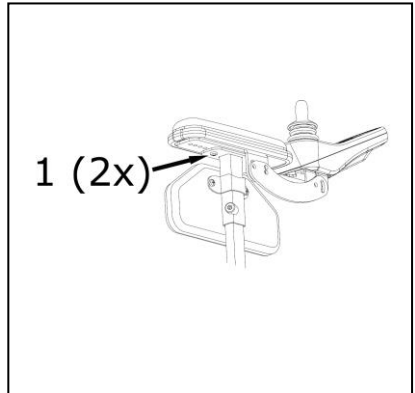

Figure 4.13
**Remote depth setting (fig 4.13).**
1. Loosen and remove the bolts (1).
2. Slide the control unit in the desired position (2).